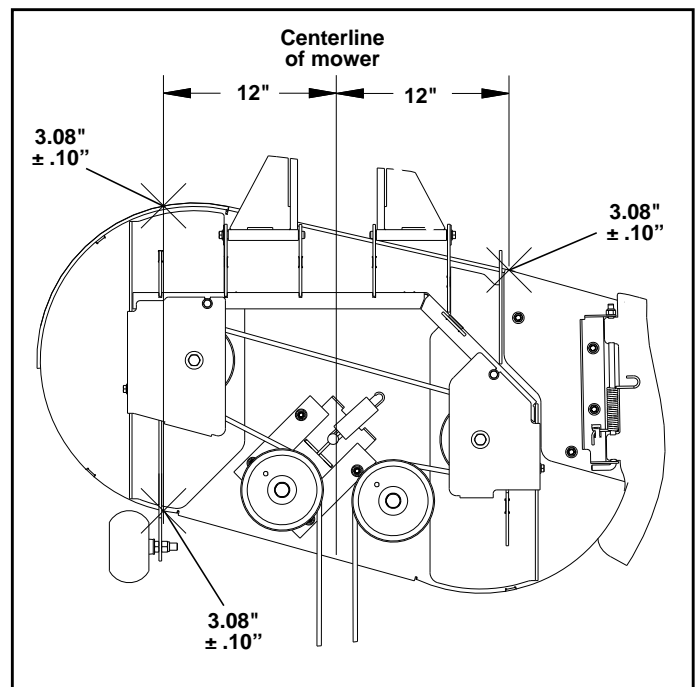

Figure 6-7
21. For quality inspections measure the deck height at the three (3) locations shown in Figure 6-7